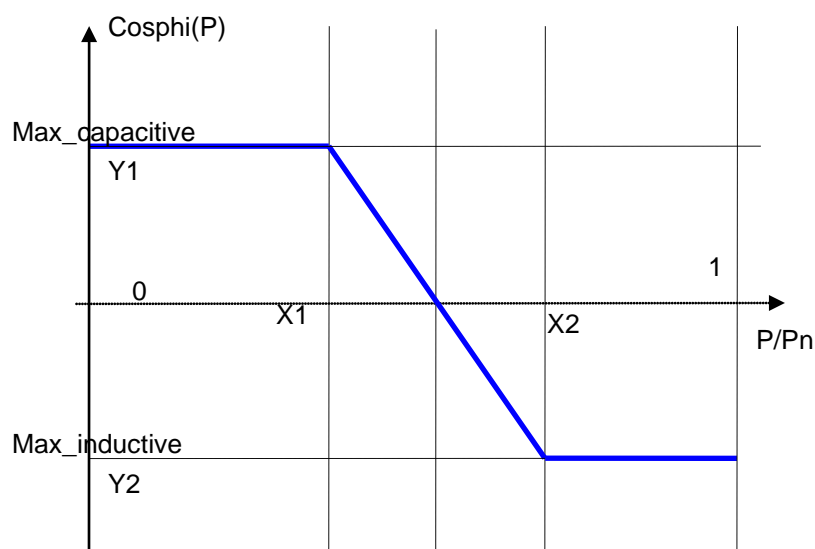

Figure 1: Cosphi(P) characteristic
Function	This parameter defines the power factor (cosphi) if P300 = 2 (see Figure 1). From 900 to 1000, the reactive power is set in advance (negative sign of the power factor—inductive behaviour). From 1000 to 1100, the reactive power is set on a delay (positive sign of the power factor—capacitive behaviour).
Active	Only if P300 = 6, Reactive Power defined by Cosphi(P) (Figure 1). This is the value for "X1".
Function	Coordinate "X1" in Figure 1. If P/Pn < X1, the reactive power is defined by "Y1", otherwise it is defined by the loop line.
Active	Only if P300 = 6, Reactive Power defined by Cosphi(P) characteristic (Figure 1). This is the value for "Y1" and is the max. capacitive cosphi value.
Function	Coordinate "Y1" in Figure 1.
Active	Only if P300 = 6, Reactive Power defined by Cosphi(P) characteristic (Figure 1). This is the value for "X2".
Function	Coordinate "X2" in Figure 1. If P/Pn > X2, the reactive power is defined by "Y2", otherwise it is defined by the loop line.
Active	Only if P300=6, Reactive Power defined by Cosphi(P) characteristic (Figure 1). This is the value for "Y2" and is the max. inductive cosphi value.
Function	Coordinate "Y2" in Figure 1.